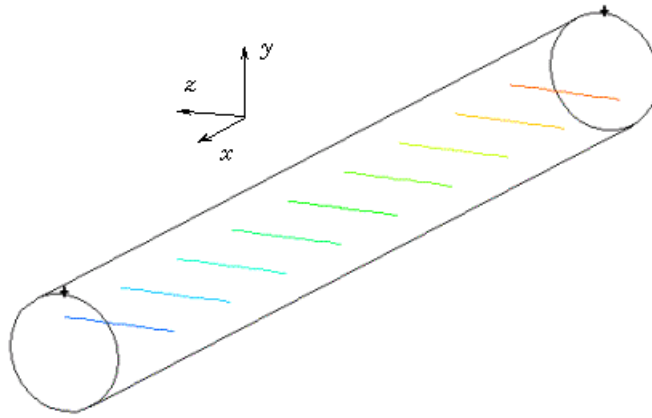
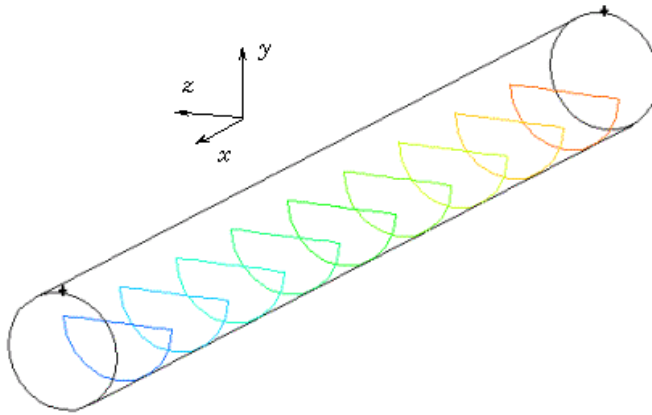

Figure 9.8.2: Contour Lines Plot, Halfspace (0)
Figure 9.8.3: Contour Lines Plot, Halfspace (-) and (0)
Figure 9.8.2 shows **Lines** contour type for pressure degree of freedom, defined on a plane in a pipe model. For this contour, FlowLab displays a series of curves (which appear as straight line segments) at specific intervals along the length of the pipe. Each curve represents the intersection of the cutting plane with a given pressure isobar in the flow stream. By default, FlowLab divides the pipe longitudinally into 10 intervals. You can
For example, Figure 9.8.3 shows a plane object the contour specifications of which are identical to those shown in Figure 9.8.2, but with **Halfspace** (-) and (0) options specified on the **Create Plane Object** panel.